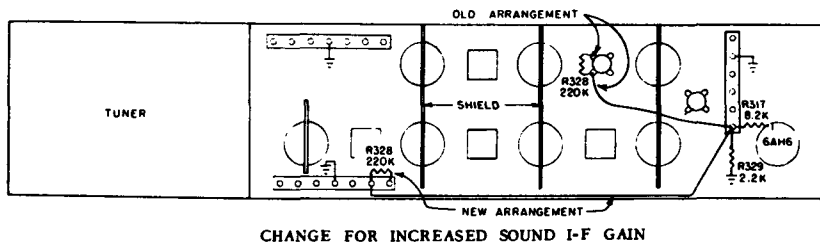

Fig. 38 — Westinghouse
**Increasing contrast range and sound output (see Fig. 38).**